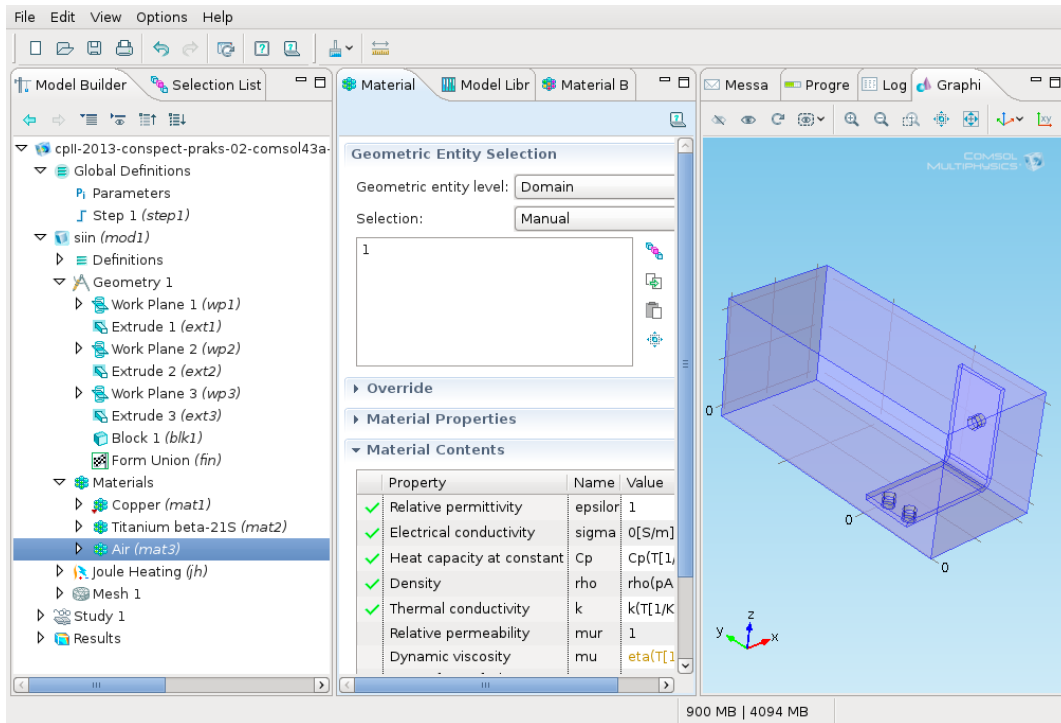

Figure 14: Adding the air.
- 2 Click the *Model Builder*  $\rightarrow$  *Materials*  $\rightarrow$  *Air* branch (Fig. 14).